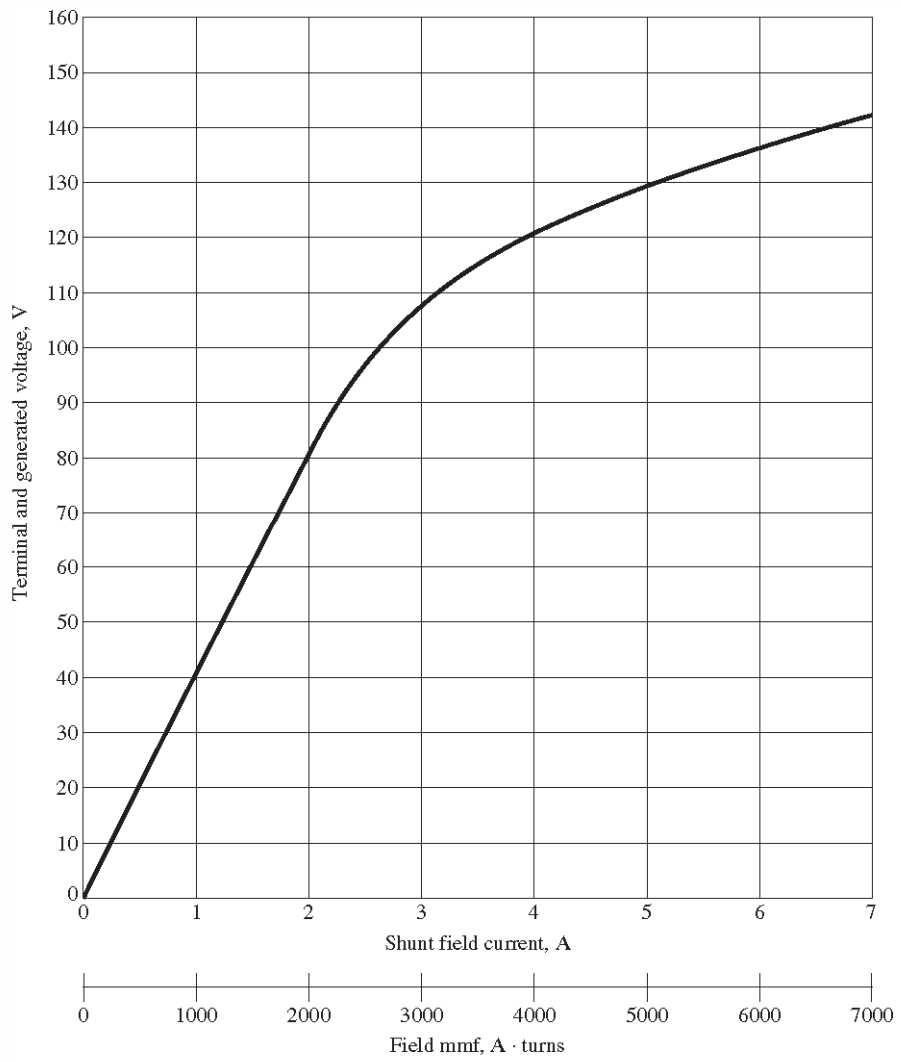
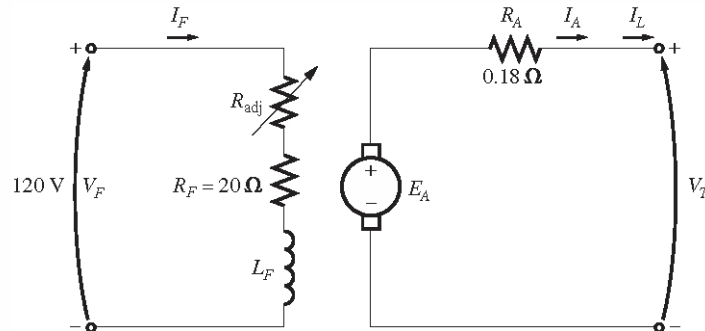

FIGURE P8-7
FIGURE P8-8
- 8-22.** The magnetization curve for a separately excited dc generator is shown in Figure P8-7. The generator is rated at 6 kW, 120 V, 50 A, and 1800 r/min and is shown in Figure P8-8. Its field circuit is rated at 5A. The following data are known about the machine: